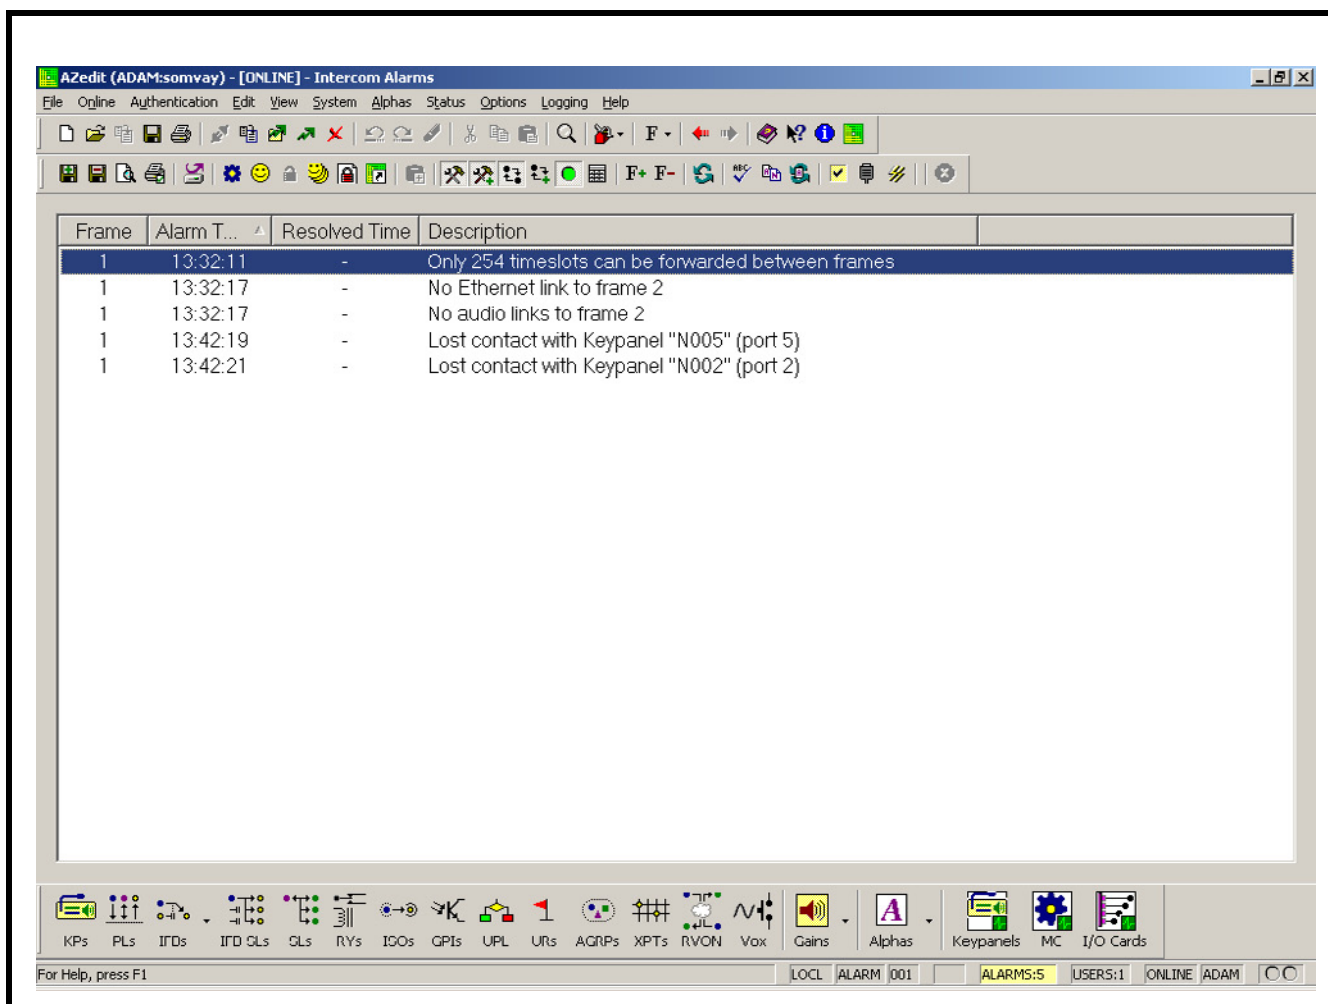

FIGURE 49. Intercom Alarms Window
The **Intercom Alarms** window, shown in Figure 49, displays alarms that occur in the intercom and an indication of whether they have been resolved or not. If an alarm has not been resolved, it is highlighted in yellow on the status bar (see Figure 48). Once an alarm has been resolved, it is automatically deleted out of the list after five (5) minutes.